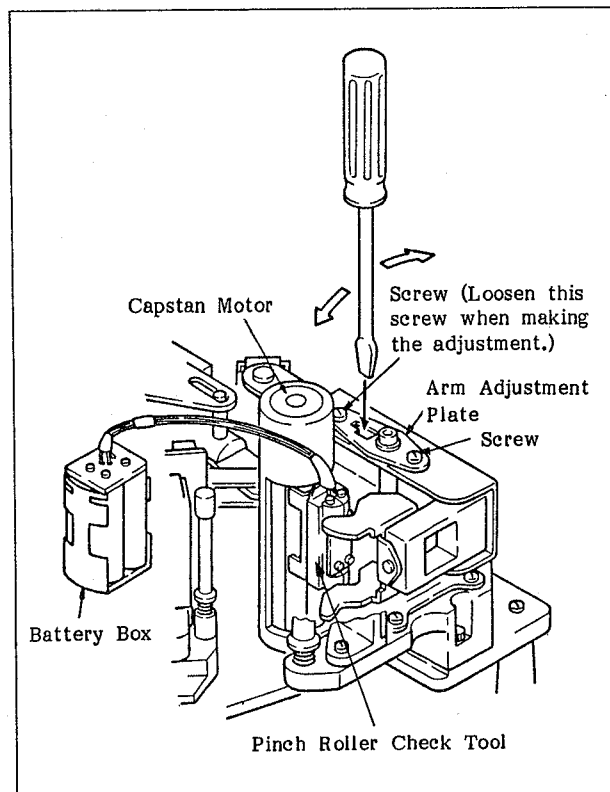

Fig. 6-88 Fine Adjustment of the Pinch Roller Plate Azimuth
- a. Attach the Pinch roller check tool to the capstan, as shown in Figure 6-88.
- c. Loosen one of the two screws that hold the arm adjustment plate shown in Figure 6-88. Make the adjustment by inserting a flat blade screw driver into the square hole shown in the figure and rotating it. After completion of the adjustment, check again the pinch roller plate azimuth in step b.
- f. Make the adjustment by inserting a flat blade screwdriver into the square hole shown in Figure 6-88 and by rotating it a little. After completing the adjustment, repeat the procedure from step d.